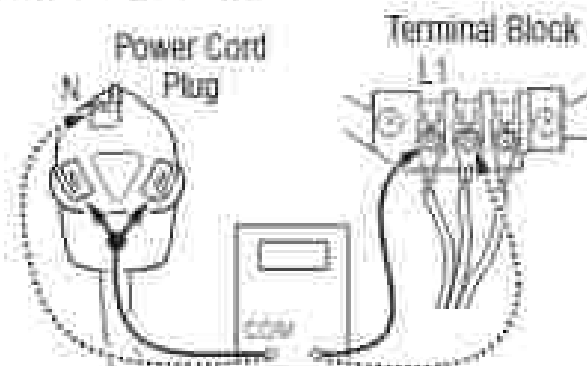

Figure 2 - Plug-to-terminal connections for electric dryer
3. With an ohmmeter, check for continuity between the neutral (N) terminal of the plug and the center contact on the terminal block. See Figure 2.
4. In a similar way, check which terminal of the plug is connected to the left-most contact on the terminal block and make a note of it. This will be L1 (black wire) in the wiring diagram. See figure 2.